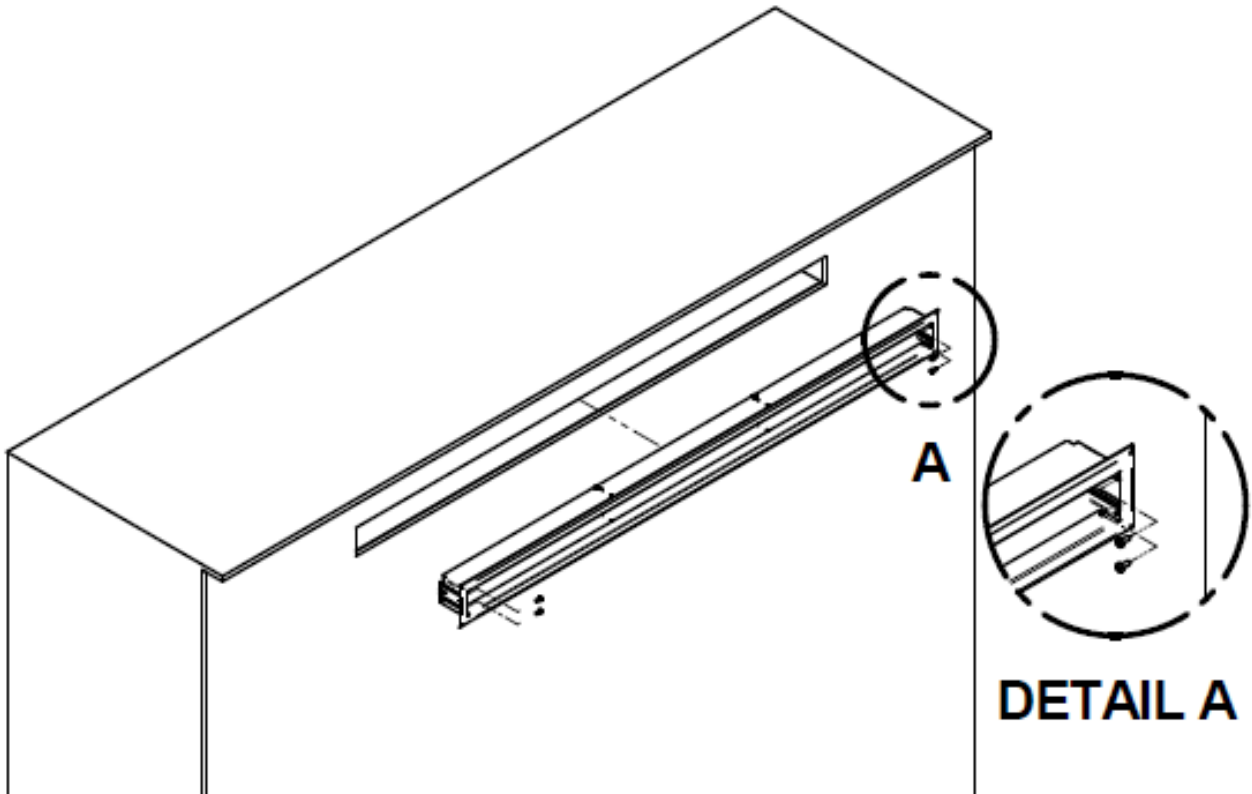

Figure 11 : Hot air vent installation
1. Build a **non-combustible** frame using the dimensions shown on Figure 11.